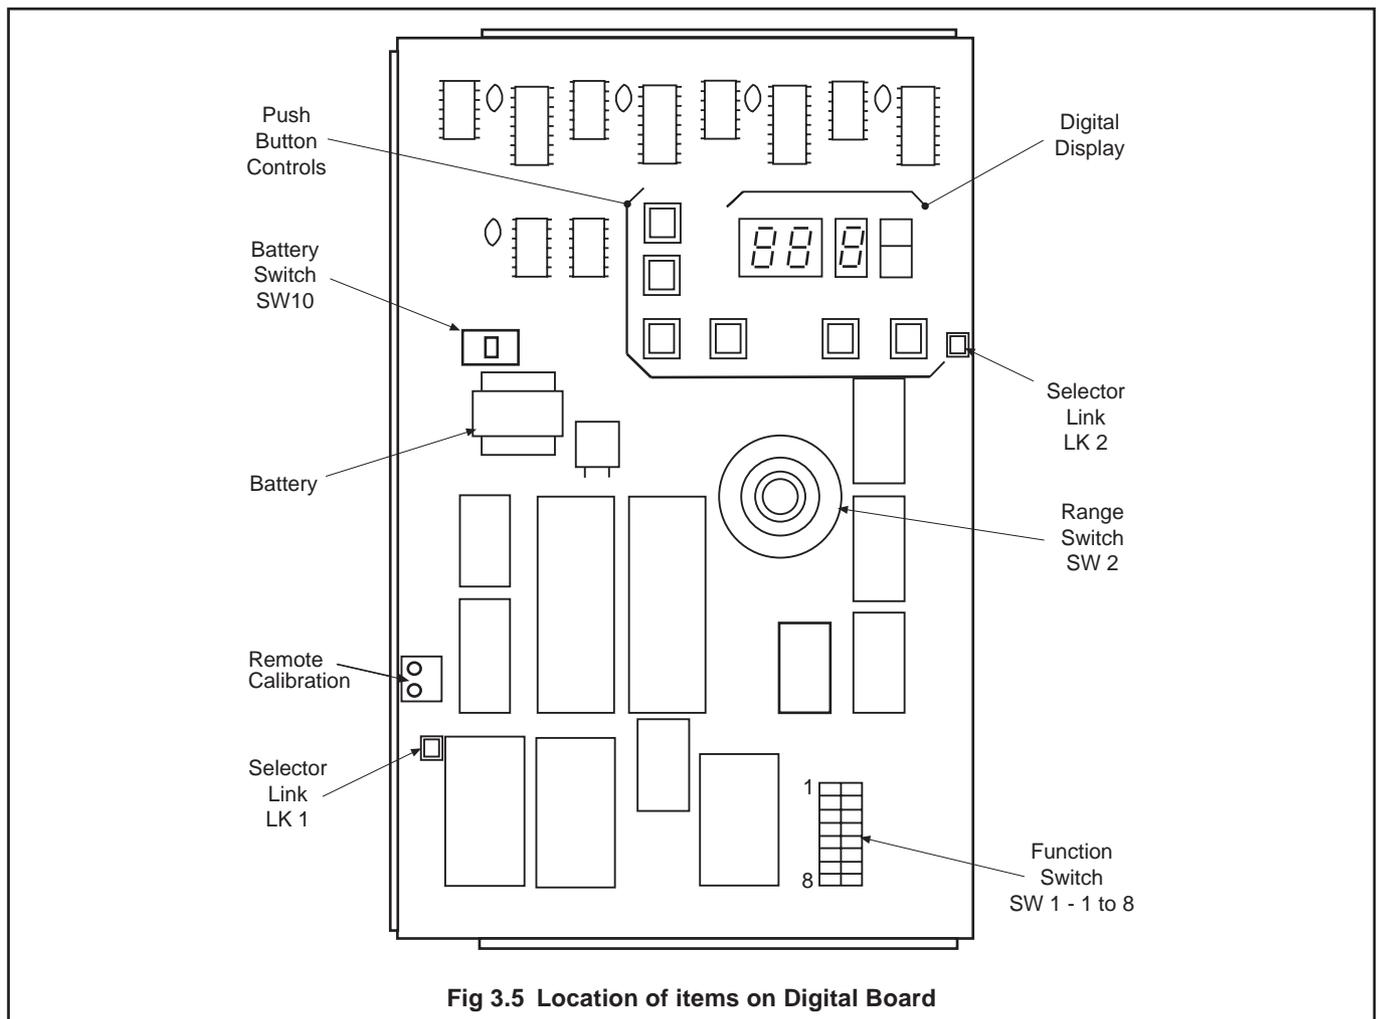

Fig 3.5 Location of items on Digital Board
- b) Set the battery switch SW10 to 'ON' – see Fig. 3.5.
Digital circuit board (Fig. 3.5)